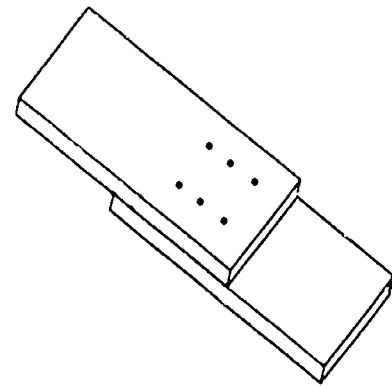

Figure 3. Fastener 2: the screws are spaced evenly.
3. **Fastener 2\* - Screws:** The next two boards must be screwed together. First, evenly space six screws. Then drill the holes, countersink the screw holes, and place the screws (see Figure 3). These boards can also be fastened at right angles.